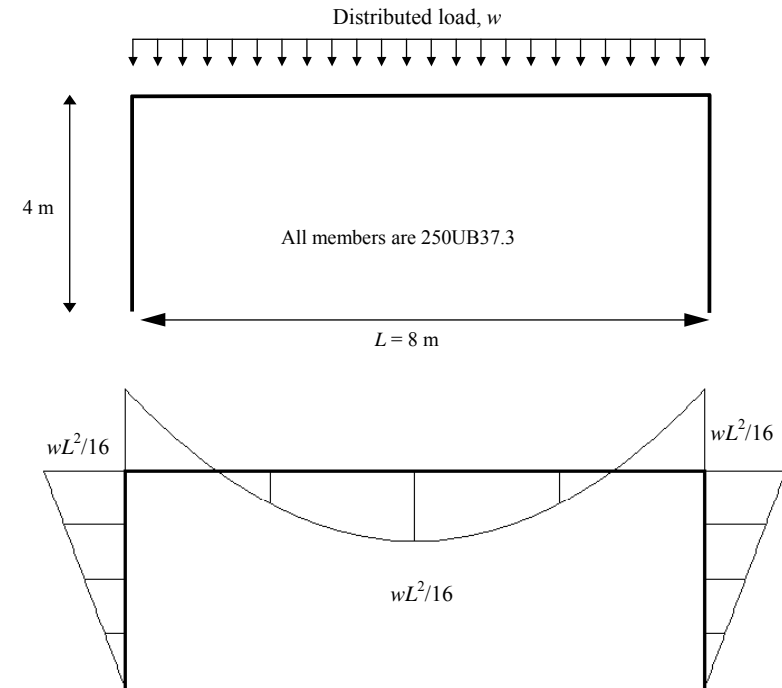

Figure 2: Portal Frame Under UDL w on the Rafter
- b) A rectangular portal frame, constructed from 250UB37.3 members in Grade 300 steel, has a height of 4 metres and a span of $L = 8$ metres as shown in Figure 2 below. The webs of the members are oriented so that they lie within the plane of the frame. Figure 2 also shows the BMD of the frame for a uniformly distributed load w acting downwards on the rafter.
- i) **Does the structural analysis program used to produce the BMD in Figure 2 draw the bending moments on the tension or compression side of members in bending?**